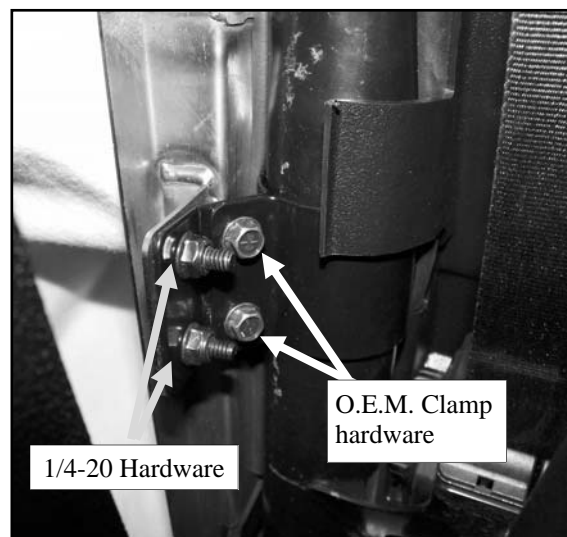

Fig. 6.8 (View of rear right corner)
6.8 See fig 6.8. Using the following hardware, attach the rear leg to the O.E.M. roof bracket. Tighten all hardware at this time.